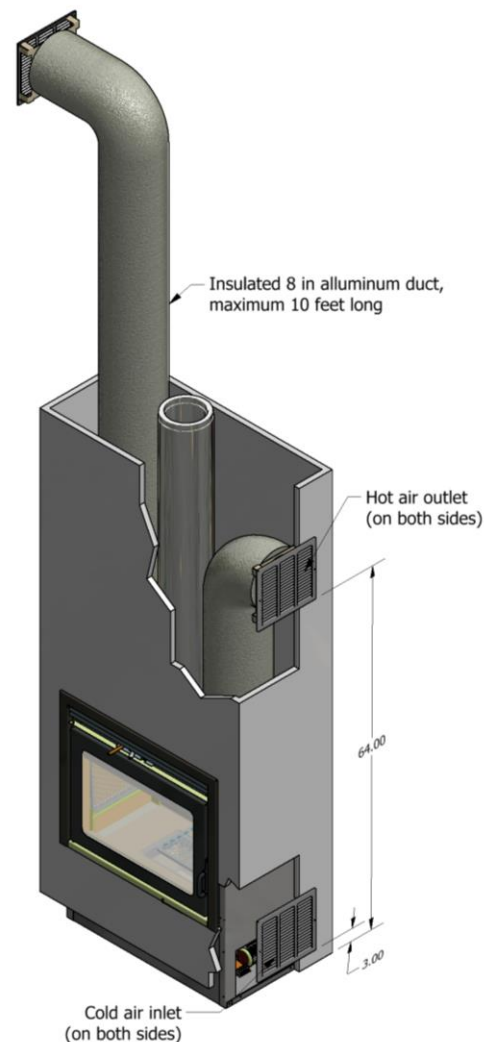

Figure 13 – Gravity kit installation
- The hot air grilles of the Gravity Kit should be at least 68 inches from the floor and the ducting should have a maximum length of 10 feet (see figure 13).
The minimum dimensions of the hearth extension are specified in figure 13. The hearth extension is to be covered with non-combustible materials only, such as steel, cement or mortar, stone, brick, ceramic tiles. Unidentified materials may be combustible: verify the product specifications prior to installation.